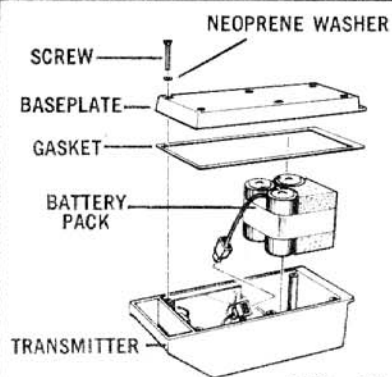

FIG. 13
6.3 REMOVING THE TRANSMITTER (See Figure 13)